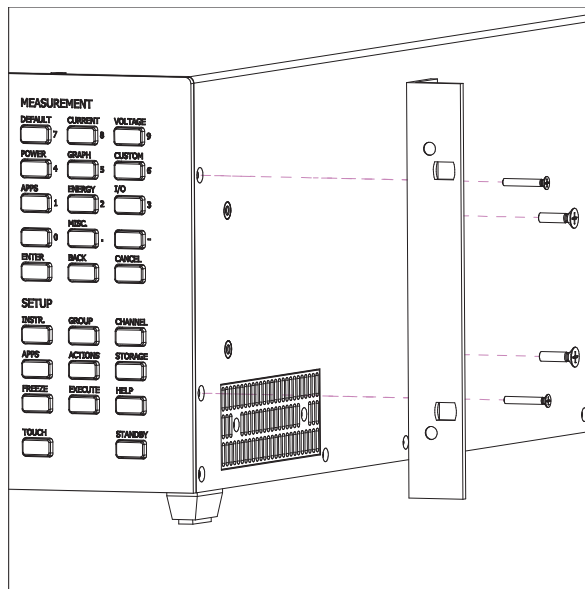

Figure 5.3: Montage des 19"-Montagesatzes (LMG671)
- The brackets are mounted usind the shipped M4x8 screws with spring washers and 2 of the removed M3x8 fillister head screws (see Figure 5.3 [→88]).